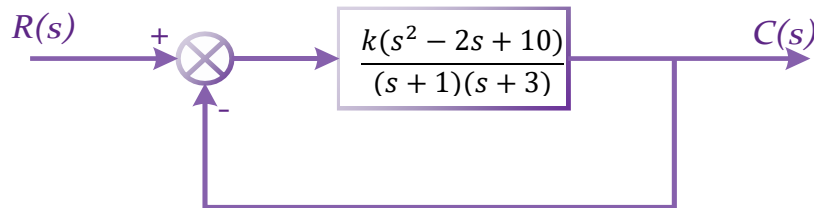

Figure 2.1
2.1 Use MATLAB to sketch the root locus for the system of Figure 2.1 and find the following: